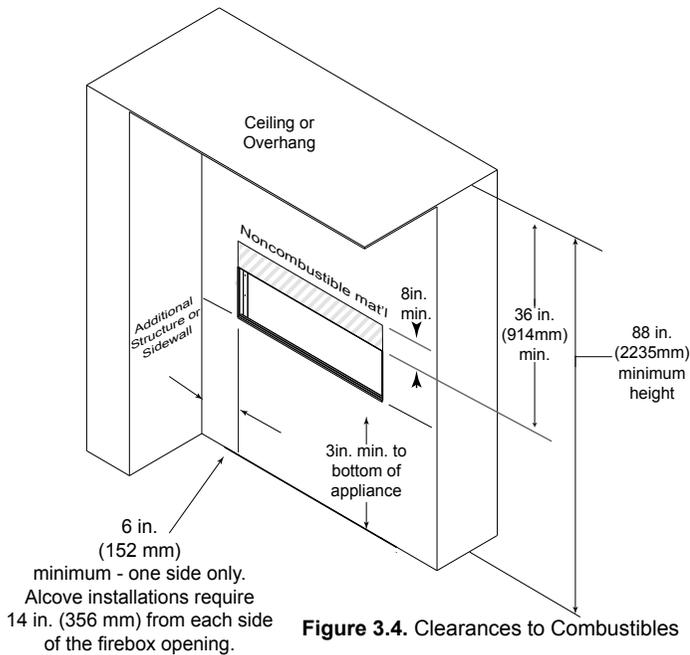

Figure 3.4. Clearances to Combustibles
Dimensions are actual appliance dimensions. Use for reference only. For framing dimensions and clearances refer to Figure 3.2 and Figure 3.4.
- Noncombustible wall sheathing material is required 8” above the appliance. (See Figure 3.4)